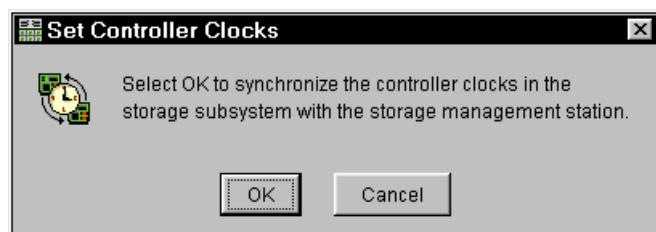

Figure 4-27 Setting the controller clock
3. Since the FASST Storage Server stores its own event log, synchronize the controller clocks with the time of the host system. Be sure that your local system is working using the correct time. Then click **Storage Subsystem-> Set Controller Clock** (Figure 4-27).